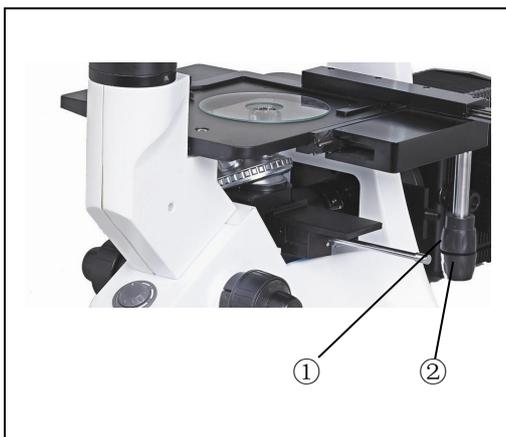

Fig 5
3.1.6 Mounting Auxiliary Stage (Fig 5)